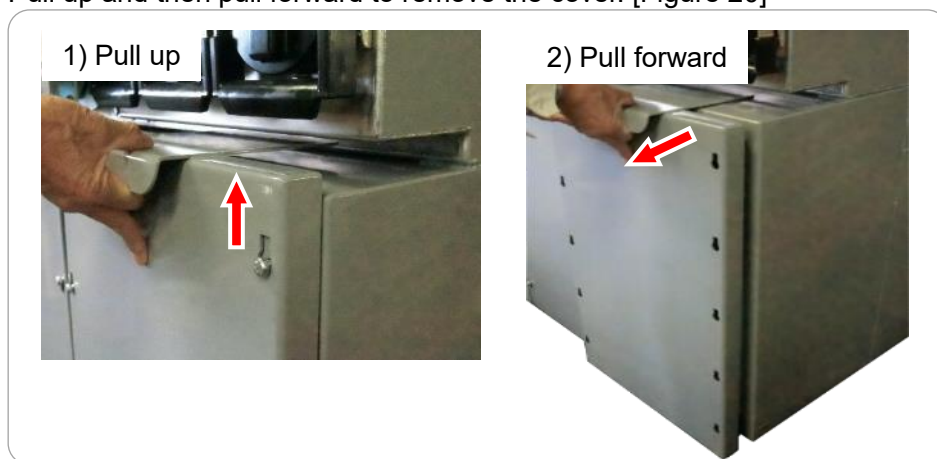

Figure 20. Removing the covers
- ② Pull up and then pull forward to remove the cover. [Figure 20]